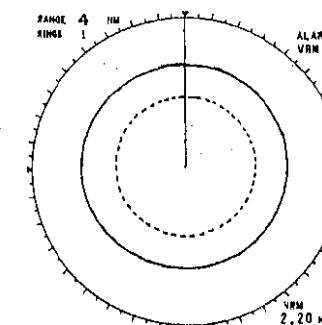
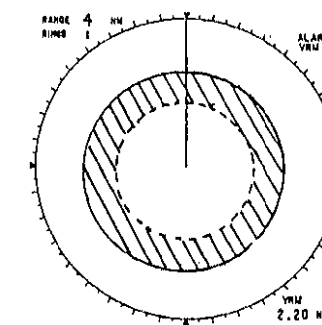

Fig.1-13
Fig.1-14
4. Press  /  until the VRM stops at 2.20nm (depending on which one was set in step 2) and press the SET/RESET touchpad. A "doughnut ring" marks the inner and outer limits of the alarm. See Fig.1-13 and Fig.1-14.